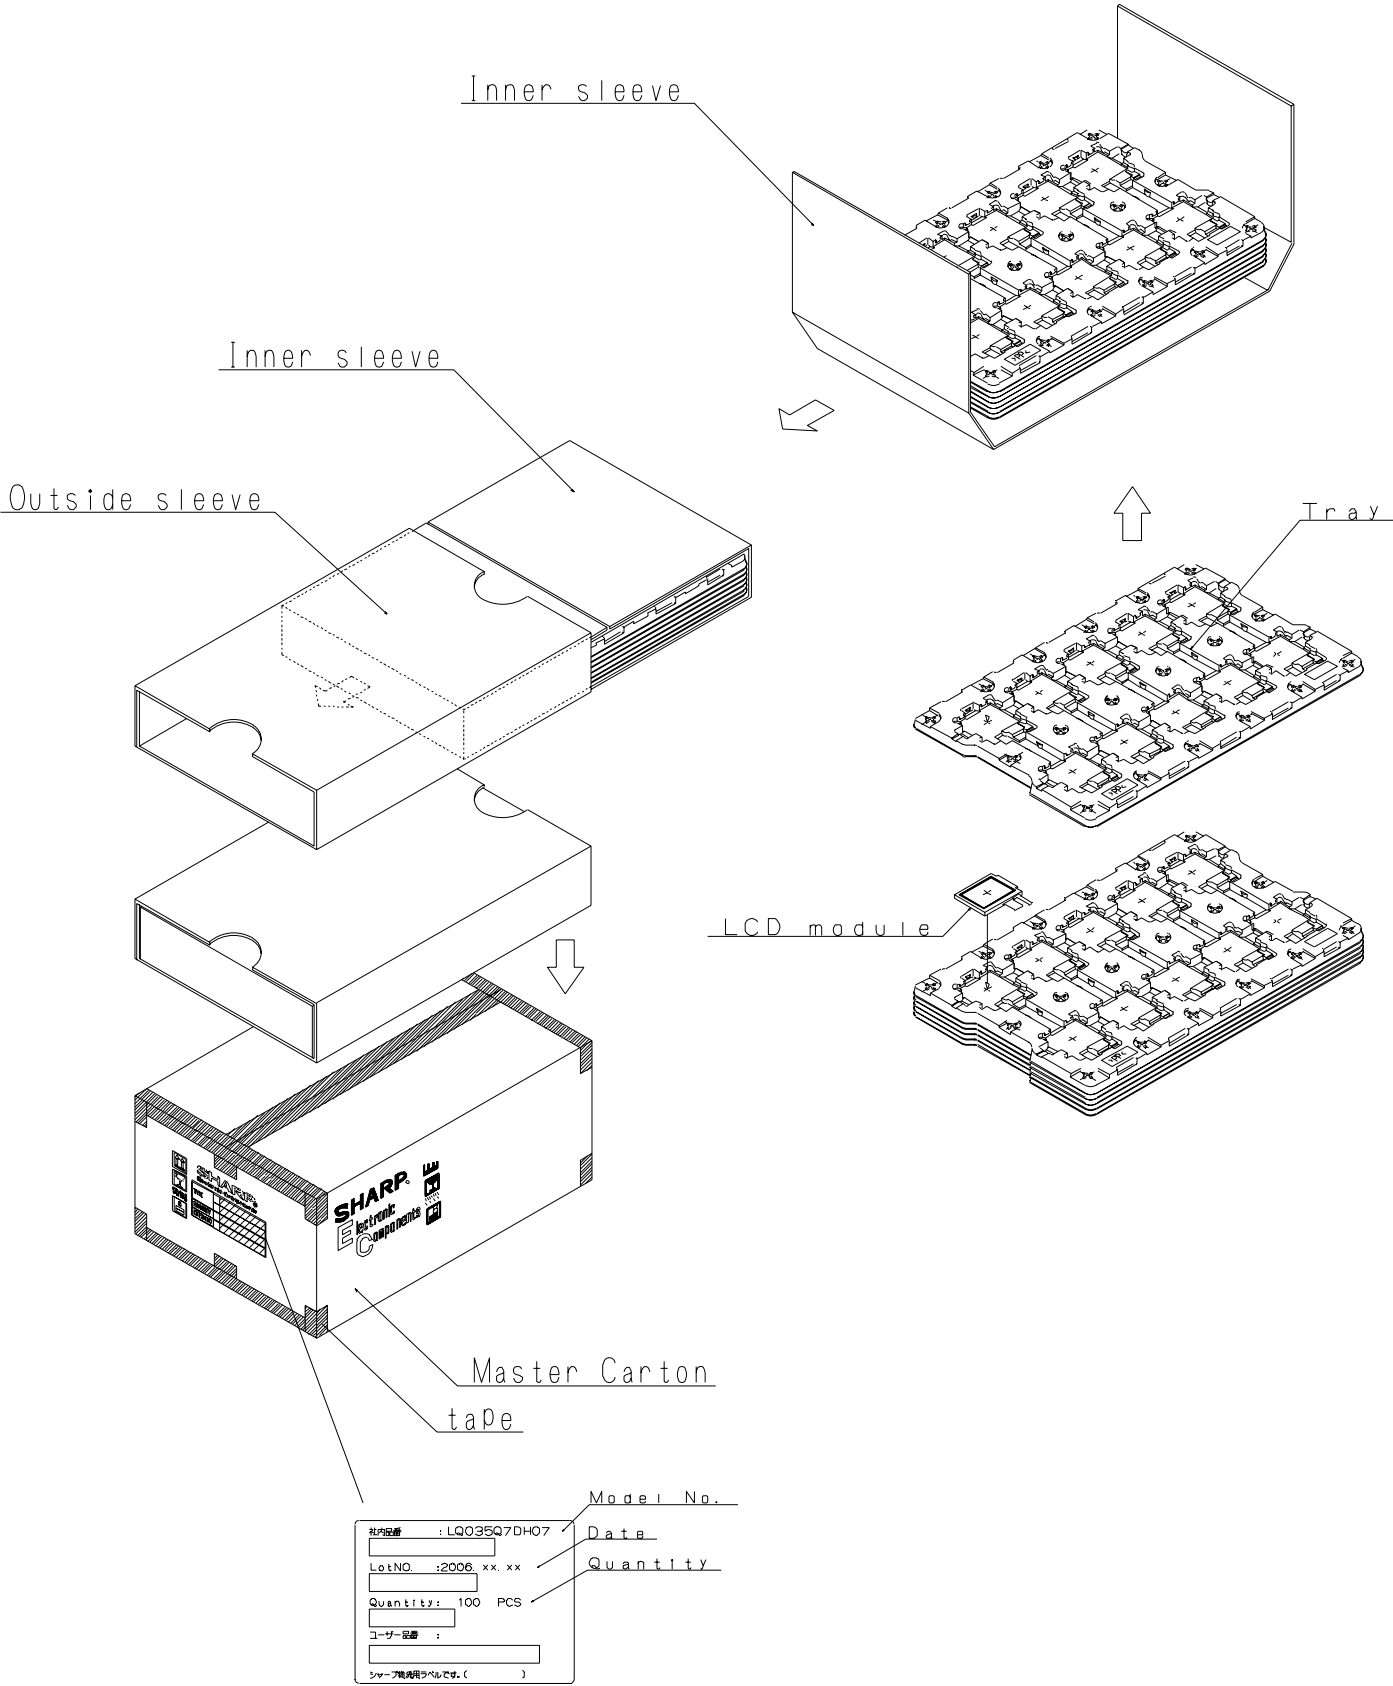

Fig.2 Forwarding form
(15) Forwarding form (See Fig.2 Package Form)